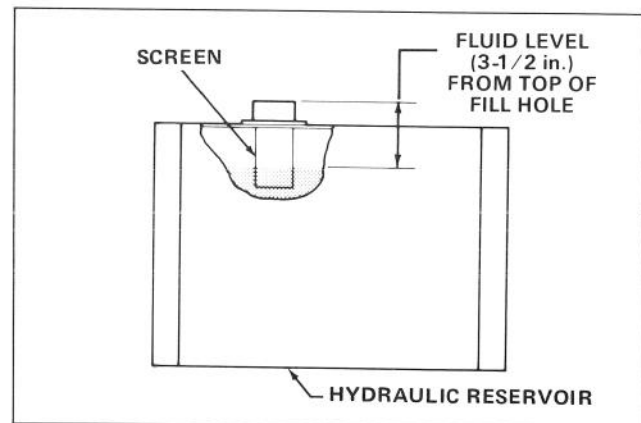

Figure 14
1. Remove the cap from the top of the reservoir and check the fluid level. The fluid should be approximately 3-1/2 in. below the top of the fill hole. Add Mobile DTE26 hydraulic fluid if the level is low (Fig. 14). Shell Tellus 68 oil may be substituted if Mobile DTE26 is unavailable.